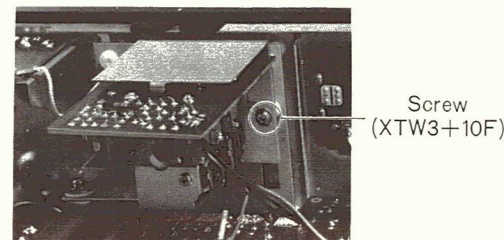

Fig. 11
3. Remove the one (1) screw for the PC board, as shown in fig. 11.